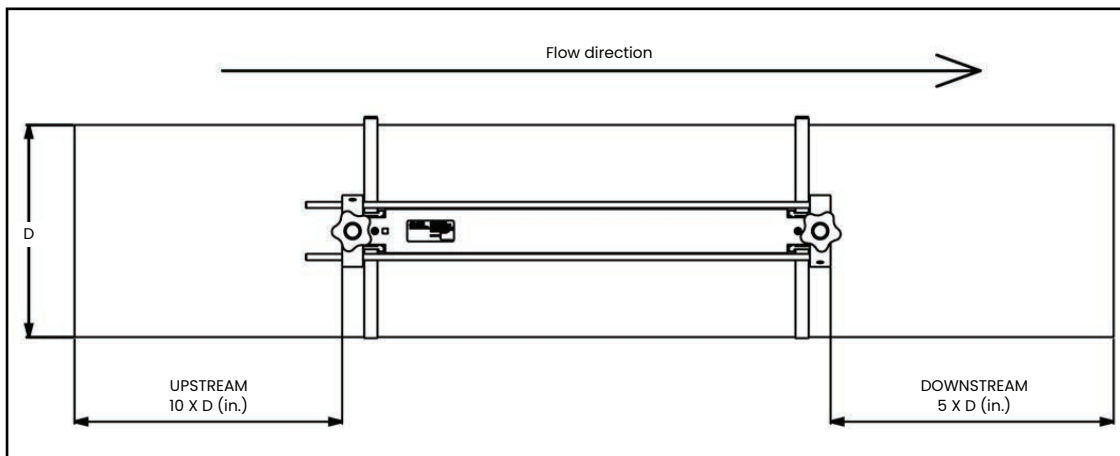

Figure 7: AT600 Clamp-on Fixture/Transducer Location
- Position the clamp-on fixture(s) and transducer system so that there are at least 10 pipe diameters of straight, undisturbed flow upstream and 5 pipe diameters of straight, undisturbed flow downstream from the measurement point (see *Figure 7* below). Undisturbed flow means avoiding sources of turbulence in the fluid such as valves, flanges, expansion joints, elbows, swirl, and cavitation.
- a. Choose a location with enough straight pipe run (refer to *Figure 7 on page 7*).